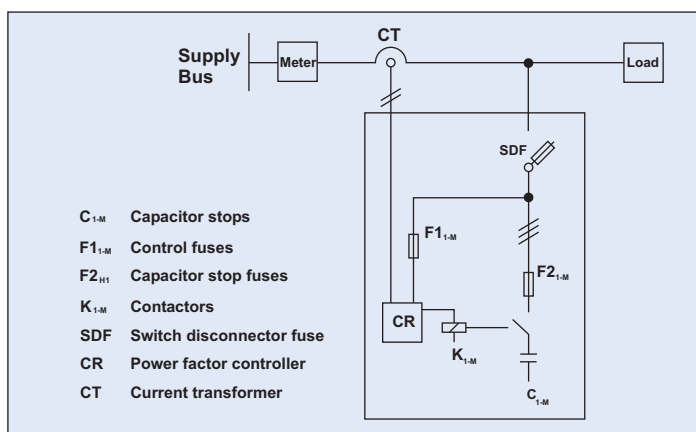

Fig. No.-3
5. In case there is no transformer in the installation, then the C.T for sensing power factor should be provided at the incoming of main switch of the plant. **Refer Fig No-3**